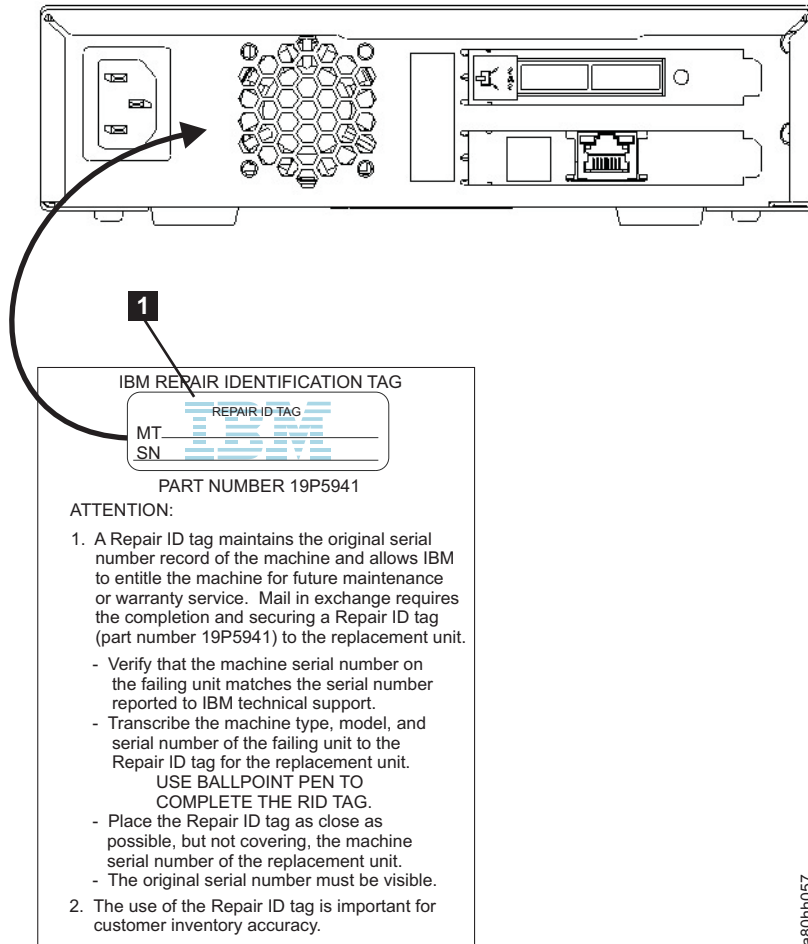

Figure 27. RID tag on rear panel
2. Locate the repair identification (RID) tag (included with the replacement unit). See **1** in Figure 27 on page 70)